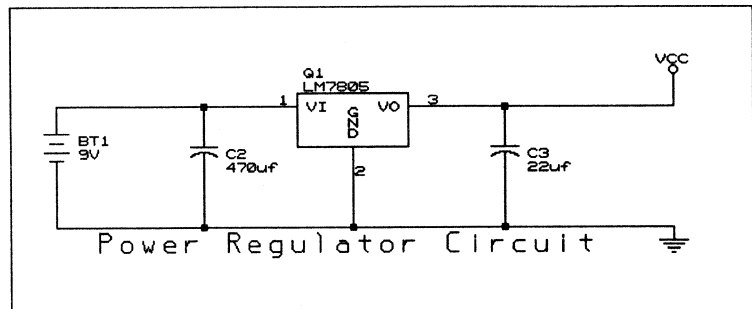

Figure 4-1. Power regulator circuit schematic.
Figure 4-1 shows the schematic diagram of the power regulator circuit you create in this chapter. Refer to this figure for placement and orientation information while performing the exercise.
4. By now you should be experienced at placing parts. Get the capacitor and place one on each side of the regulator, as shown in figure 4-1.
5. Now get the ground symbol (**GND**) and place it in the location shown in figure 4-1.
3. If you look closely at the part, you'll notice that the pin 1 end of the part has a long heavy line as part of the border. The pin 2 end has a shorter heavy line as part of the border. The long heavy line indicates the positive terminal of the battery. As shown in figure 4-1, you want the positive terminal up, so rotate the symbol to this orientation (**Down**), and place it on the worksheet.
Compare your worksheet with figure 4-1. Notice that several wires are missing from your worksheet.
7. Now, connect wire segments between the remaining parts as shown in figure 4-1. Be sure to **Begin** and **End** each wire segment at the end of a part pin, not within the body of the part.
8. Using the **PLACE Junction** command, place junctions in the circuit at the five locations shown in figure 4-1.